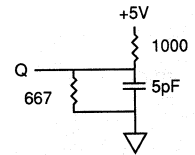

Fig. 2 OUTPUT LOAD EQUIVALENT
6. t_{HZCS}, t_{HZOE}, and t_{HZWE} are specified with CL = 5pF as in Fig. 2. Transition is measured ±500mV from steady state voltage.